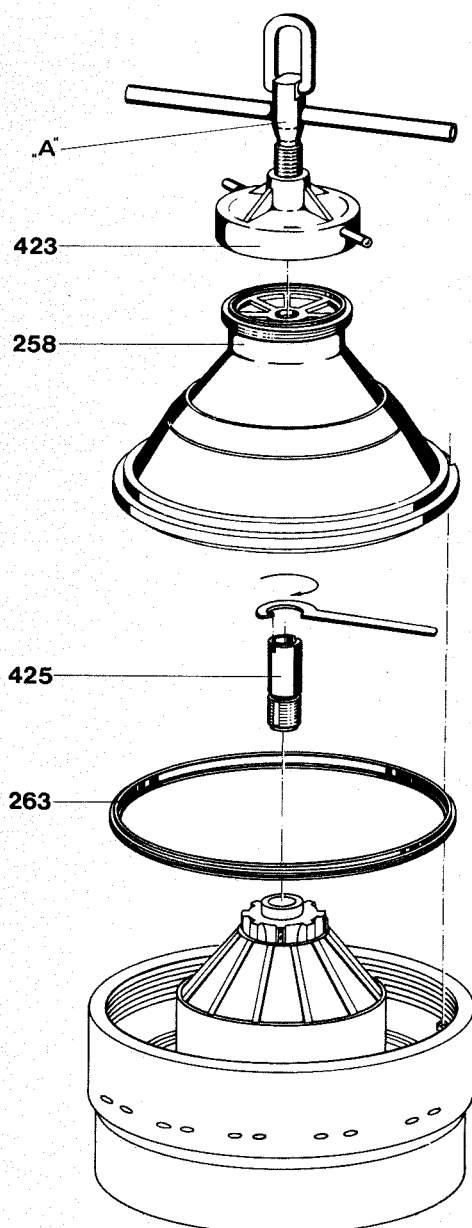

Fig. 4/9
- 12) Thoroughly clean groove in bowl top for rubber gasket 255. Fit gasket around bowl top as shown in fig. 4/8 and tap it into the groove with a rubber hammer. (If instead of the rubber gasket a gasket made of plastic is used, then proceed according to the instructions given under sect. 4.2).